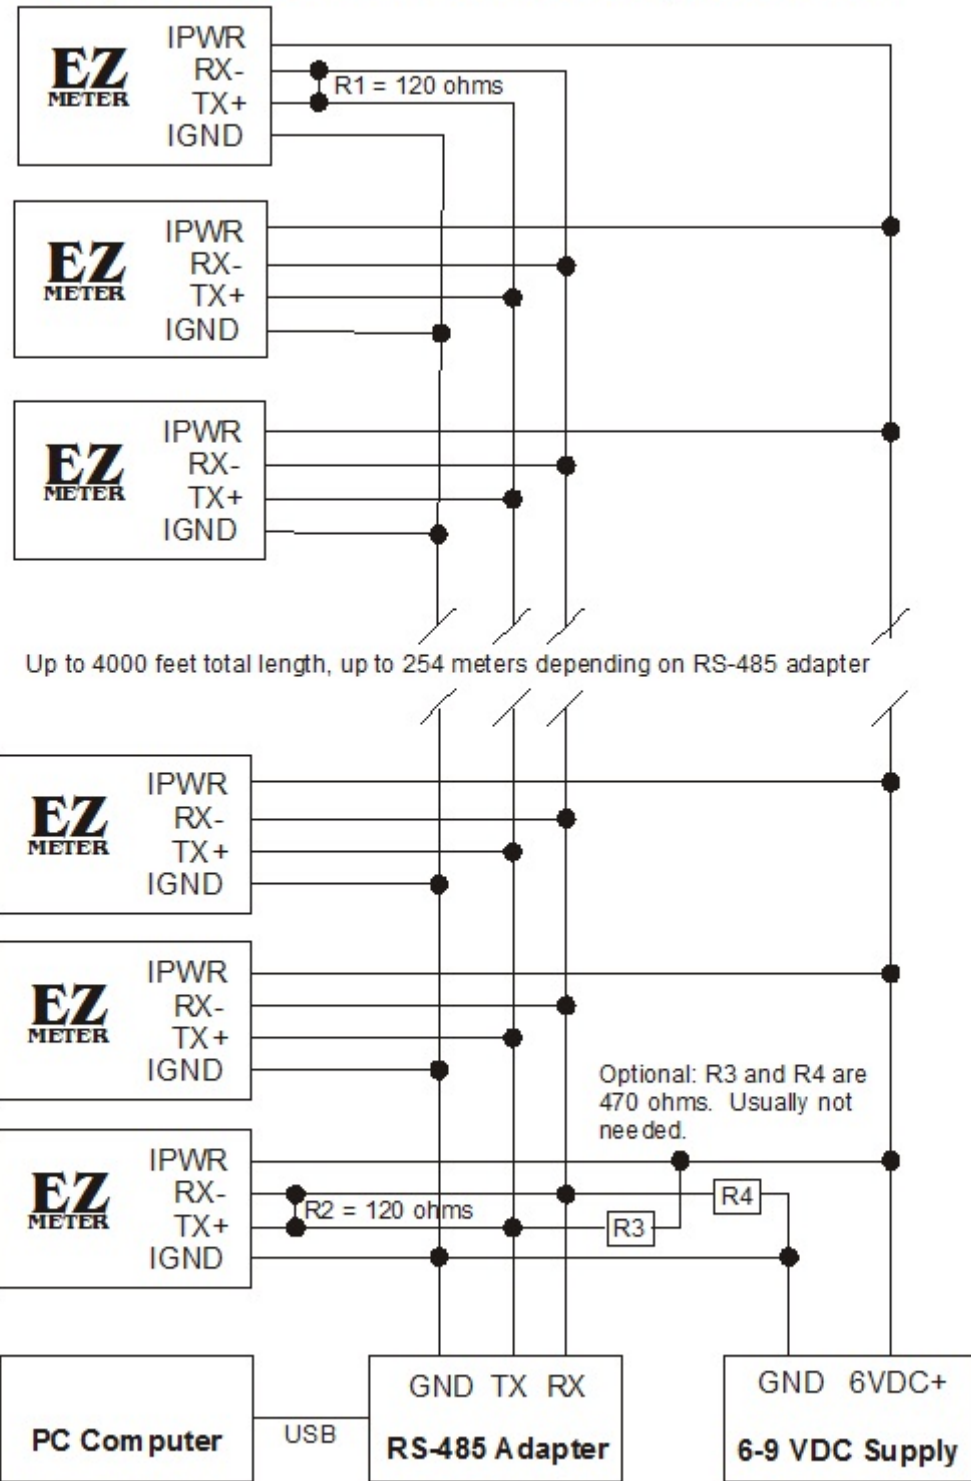

Fig. 10.
**RS-232 and RS-485 Connections:** (See Fig. 1 and Fig. 10) The serial connections are optically isolated from the electronics of the meter and require an external power source. Any power supply capable of delivering 6-18 volts DC and 50 mA per meter will work. Connect the power supply ground to the IGND terminal and the power supply hot wire to IPWR.
If you have at least a two pair cable, you can run the power from the DC power supply on one of the pairs. If the total wire length is greater than 50 feet, a 120 ohm resistor should be installed across the RX- and TX+ pins on the last meter in the daisy chain. If the total wire length will be greater than 1000 feet, install a 120 ohm resistor on the first meter in the daisy chain. Some systems may require two 470 ohm resistors, one between +5 VDC and the TX+ terminal and the other between Ground and the RX- terminal. See Fig. 10. All the resistors can be connected directly to the meter terminals. The distances mentioned are ballpark distances. If you have trouble communicating on a shorter cable, try adding the resistors.
Fig 10 shows the typical connections needed for an RS-485 network.